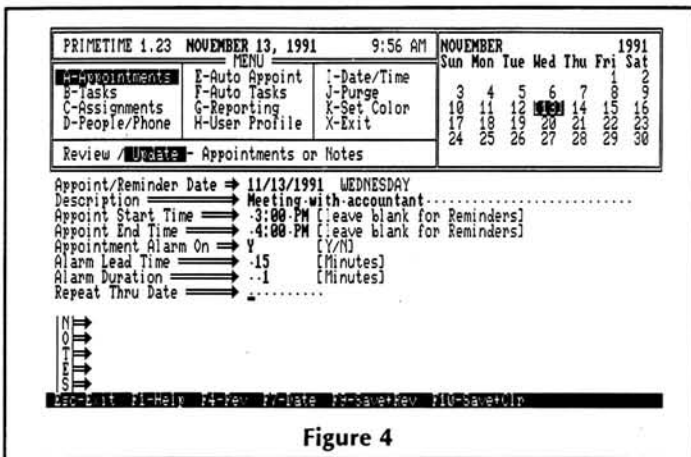

Figure 4
2. Fill in the form, as shown in Figure 4. In this case, we've set an alarm to go off 15 minutes before the meeting. Now whatever you're doing on the computer, at 2:45 Primetime Personal will sound an alarm and display a reminder message at the bottom of the screen.